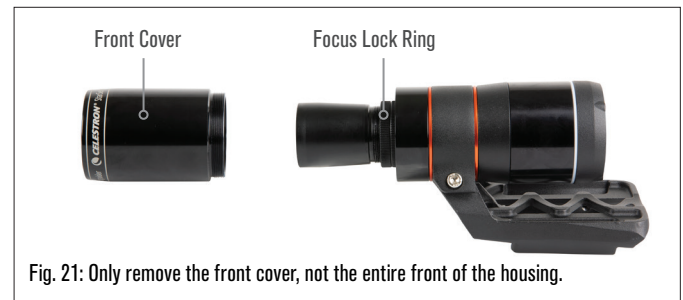

Fig. 21: Only remove the front cover, not the entire front of the housing.
3. If the focus is sharp, you are done. If not, remove SSAG’s front cover by grasping it and rotating it counterclockwise until it comes off (Fig. 21). Only remove the front cover, not the entire front of the housing.